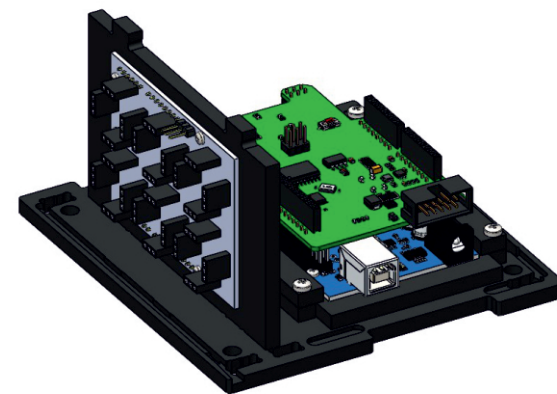

Fig. 39: Mounting the Troyka board on the base plate
6) Mount the bracket with the Troyka Slot Shield board secured to it on the bottom base plate. To do that, align bracket protrusions with holes in the base plate and latch them. Use ribbon cables to connect the Troyka Slot Shield board to the Arduino MEGA2560 board (Fig. 39):